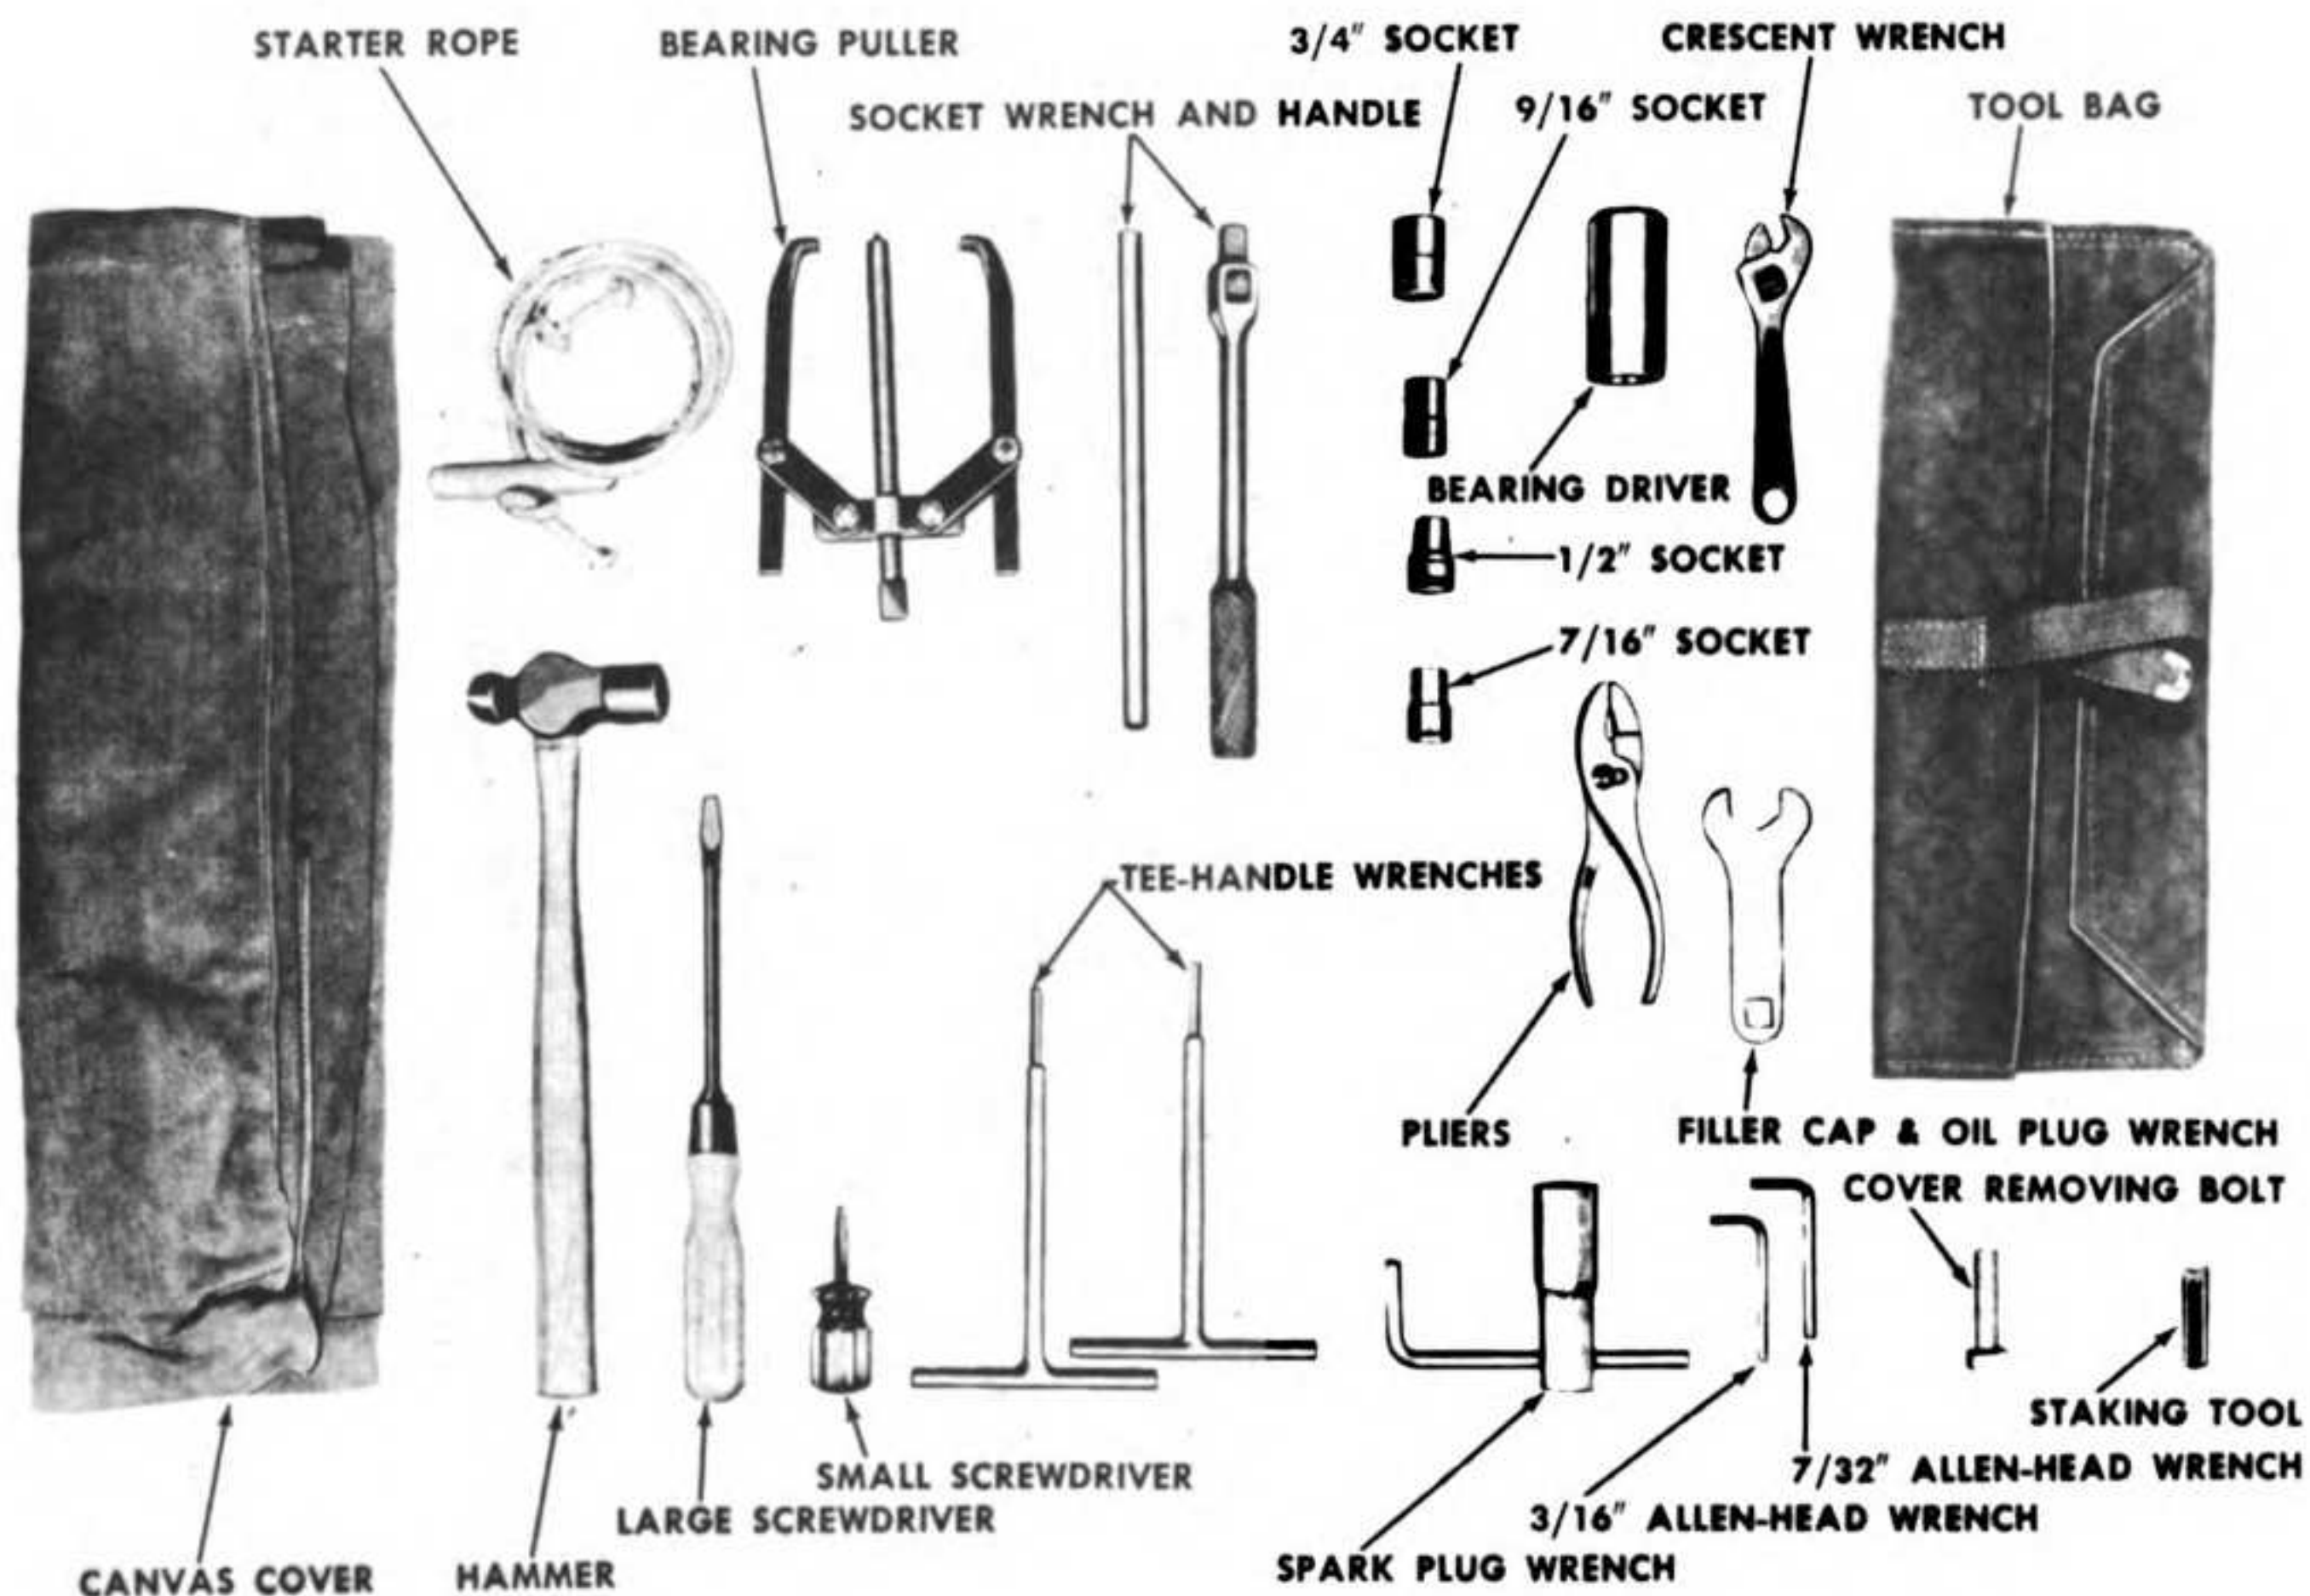

Figure 4—Tools and Equipment
a. Tools supplied with Outfit, Delousing, are illustrated in figure 4.
b. Equipment supplied (see figure 4) consists of: